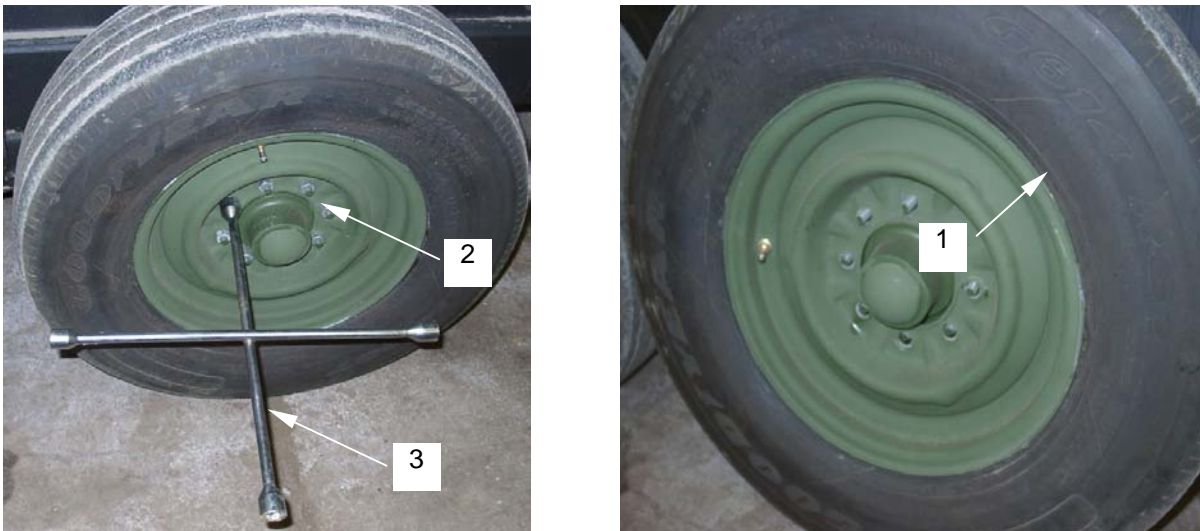

Figure 38. Tire Lug Nuts
zz. Install tire (**figure 38, item 1**) on wheel.
aaa. Install lug nuts (**figure 38, item 2**) and tighten with lug nut wrench (**figure 38, item 3**).